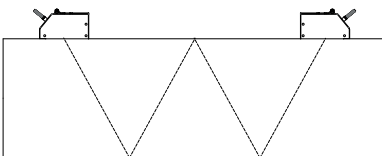

Fig. 3.7: 1 beam, 4 sound paths,
- (see Fig. 3.7 or Fig. 3.8).
The path covered by the ultrasonic signal between the transducers: the transducer emitting the ultrasonic signal and the transducer receiving it. A beam consists of 1 or several sound paths (see Fig. 3.7 or Fig. 3.8).